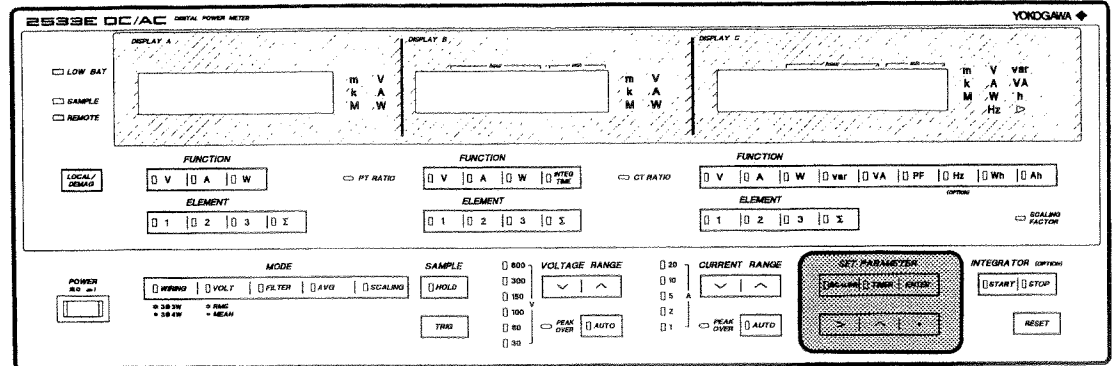

Figure 2-25.
Measured voltage, current and power multiplied by a scaling factor can be displayed. When measuring an input beyond the measurement range, an external potential transformer (PT) or current transformer (CT) is used. This function provides a direct reading in terms of the primary side value. Power scaling (SCALING FACTOR) can be converted to calorie (CAL) or other physical quantities conveniently. When scaling, parameter setting keys in the shaded area of Figure 2-25 are used.